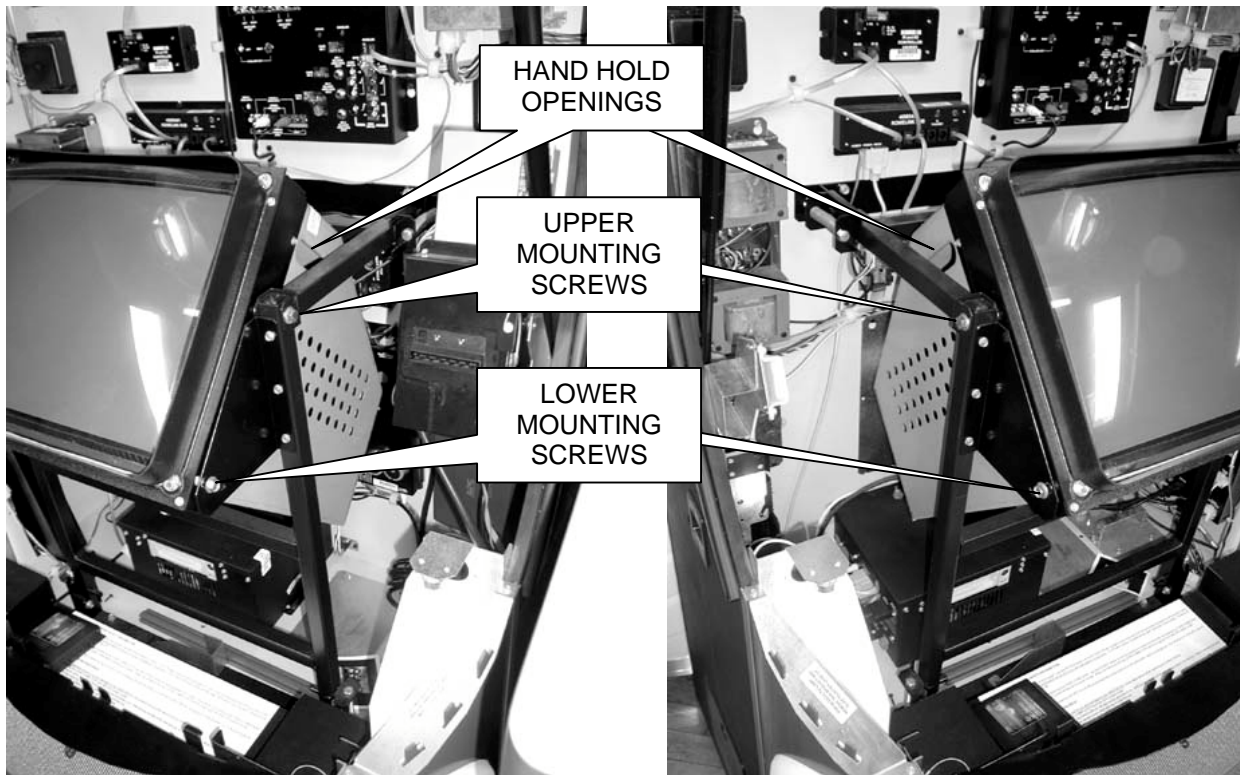

Figure 5 - Removing the Lower Mounting Screws
- Remove the two lower screws securing the Monitor Assembly to Support Bracket and tilt the CRT Monitor Assembly forward to more easily access the hand hold openings. Refer to *Figure 5*.
- With the help of an assistant, remove the two upper mounting screws and lift the CRT Assembly out of the jukebox cabinet. Refer to *Figure 5*.